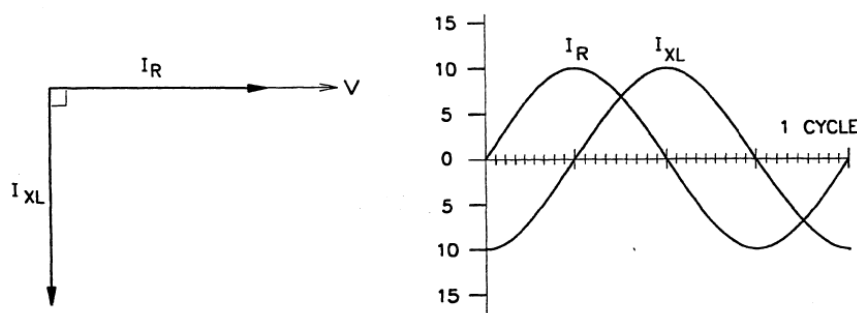

Figure 2 – Phasor Diagram
9. Using the voltage phasor as the reference, the current in the resistor (I_R) and the current in the inductor (I_L) would be shown as in Figure 2.